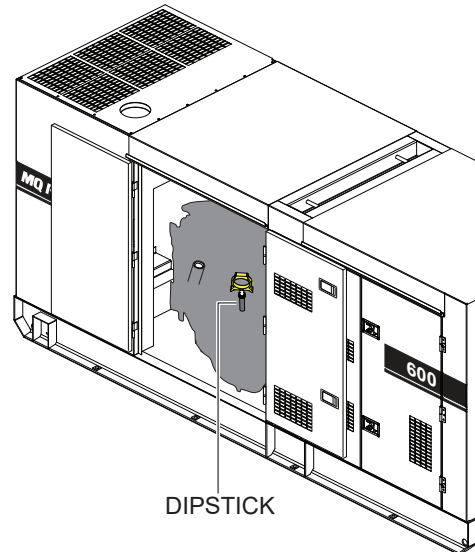

Figure 25. Engine Oil Filler Port
5. If the engine oil level is low (Figure 24C), remove the cap from the **oil filler port** (Figure 25) and fill to a safe operating level (max) as indicated by the dipstick (Figure 24A). Fill with the recommended oil type listed in Table 10. Maximum oil capacity is 12.7 gallons (48 liters).